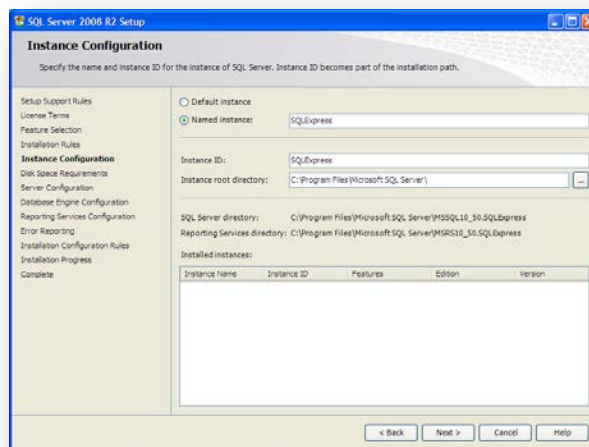

Figure 46 – Instance Configuration
12. In the “Add Features Wizard”, check “Windows Power Shell”. See Figure 46.